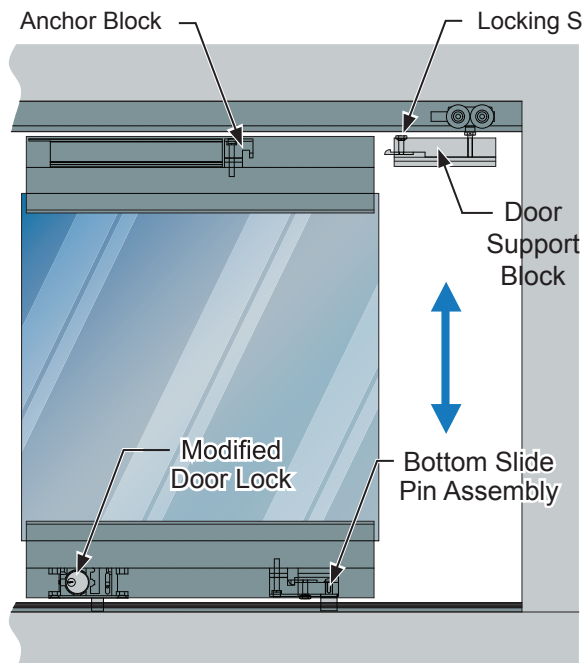

Fig. 14
1. Lift the sliding door leaf and insert the bottom slide pin assembly on the door into the recessed guide channel or into the optional surface mounted saddle threshold. **(Fig. 14)**